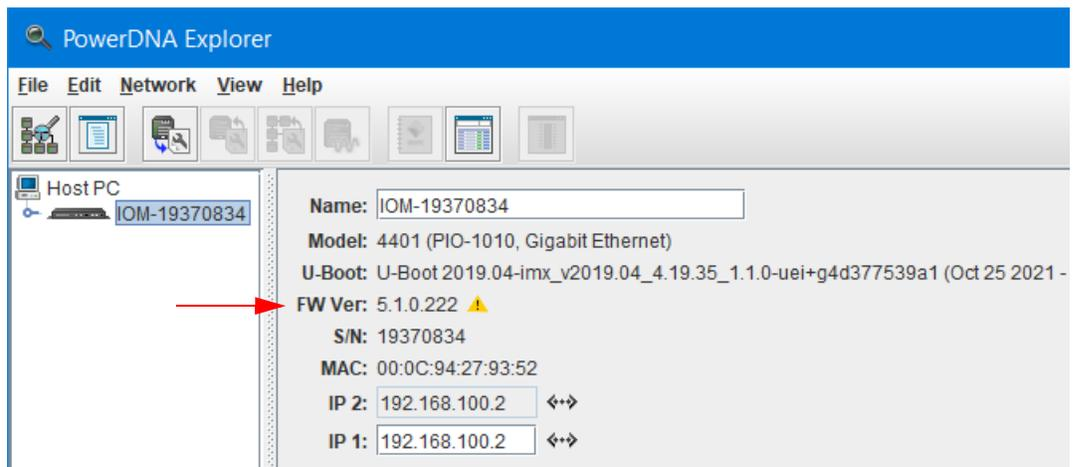

Figure 3-13 Displaying the Version of Your Firmware
- STEP 3:** In the “Settings” panel on the right, note the version that is given in the **FW Ver** field (**Figure 3-13**).